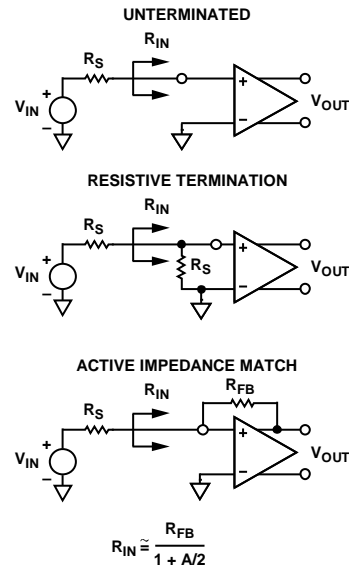
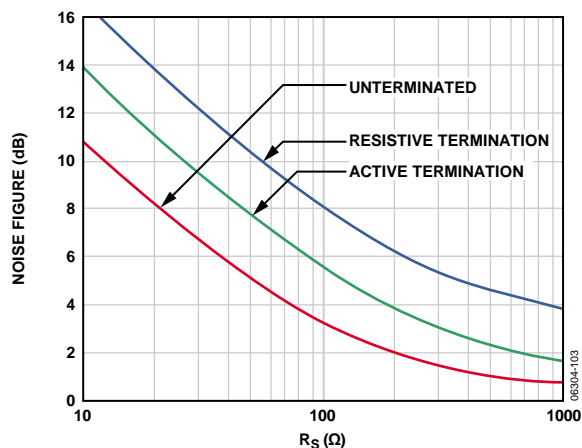
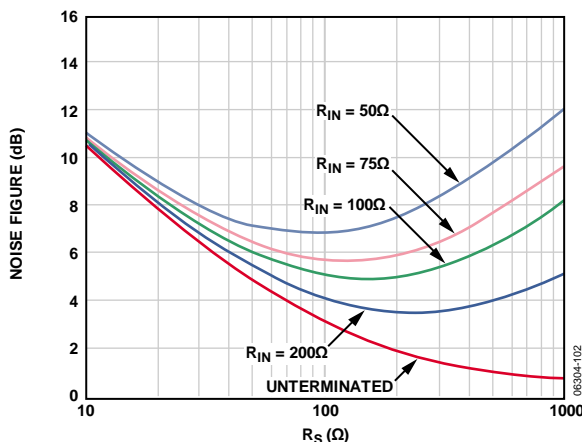

Figure 43. Input Configurations
Figure 44. Noise Figure vs. R_S for Resistive Termination, Active Termination Matched, and Unterminated Inputs, $V_{Gain} = 1\text{ V}$, 15.6 dB LNA Gain
Figure 45. Noise Figure vs. R_S for Various Fixed Values of R_{IN} , Active Termination Matched Inputs, $V_{Gain} = 1\text{ V}$, 15.6 dB LNA Gain
The short-circuit noise voltage (input-referred noise) is an important limit on system performance. The short-circuit noise voltage for the LNA is 1.2 nV/ $\sqrt{\text{Hz}}$ or 1.4 nV/ $\sqrt{\text{Hz}}$ (at 15.6 dB LNA gain), including the VGA noise. These measurements, which were taken without a feedback resistor, provide the basis for calculating the input noise and noise figure (NF) performance of the configurations shown in Figure 43. Figure 44 and Figure 45 are simulations of noise figure vs. R_s results using these configurations and an input-referred noise voltage of 4 nV/ $\sqrt{\text{Hz}}$ for the VGA. Underterminated ($R_{FB} = \infty$) operation exhibits the lowest equivalent input noise and noise figure. Figure 45 shows the noise figure vs. source resistance rising at low R_s —where the LNA voltage noise is large compared with the source noise—and at high R_s due to the noise contribution from R_{FB} . The lowest NF is achieved when R_s matches R_{IN} .
The primary purpose of input impedance matching is to improve the transient response of the system. With resistive termination, the input noise increases due to the thermal noise of the matching resistor and the increased contribution of the LNA's input voltage noise generator. With active impedance matching, however, the contributions of both are smaller (by a factor of $1/(1 + \text{LNA Gain})$) than they would be for resistive termination. Figure 44 shows the relative noise figure performance. In this graph, the input impedance was swept with R_S to preserve the match at each point. The noise figures for a source impedance of $50\ \Omega$ are 7.1 dB, 4.1 dB, and 2.5 dB for the resistive termination, active termination, and unterminated configurations, respectively. The noise figures for $200\ \Omega$ are 4.6 dB, 2.0 dB, and 1.0 dB, respectively.
Figure 45 shows the noise figure as it relates to R_S for various values of R_{IN} , which is helpful for design purposes.